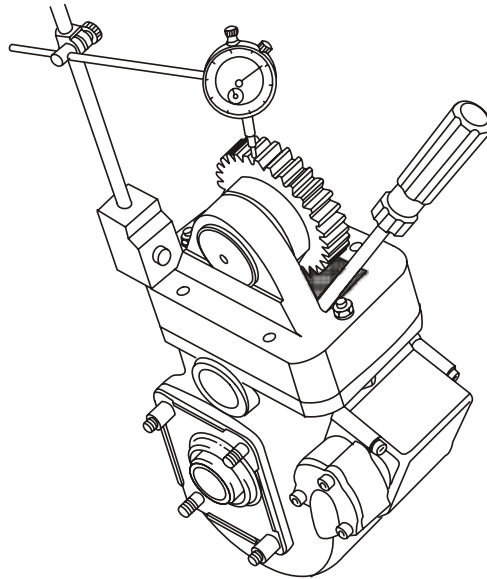

Figure 11 Checking Adaptor to PTO Backlash
- b. Install a dial indicator on the adaptor housing with the dial indicator plunger resting squarely on the adaptor gear (see Figure 11).